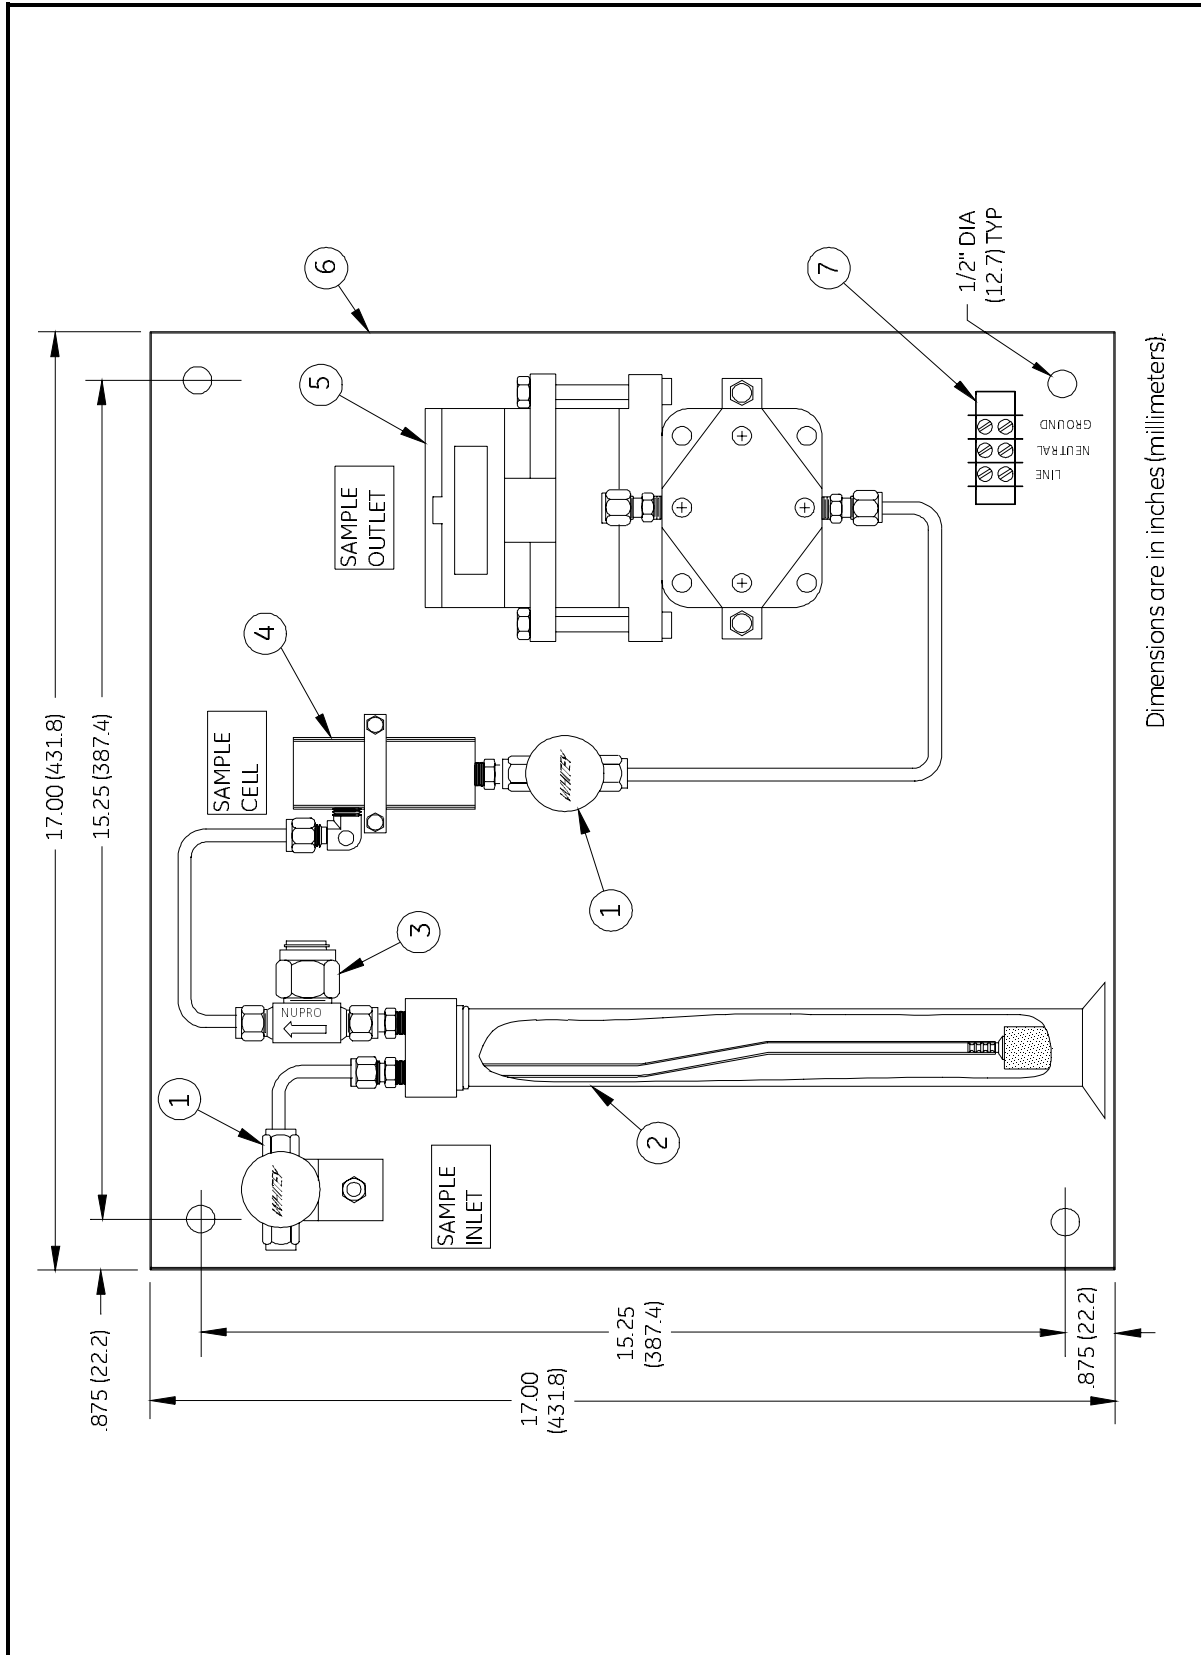

Figure 3: Mounting and Assembly Drawing (#732-962AS)
Since the gas pressure in most furnaces is low (less than 1/2 psig), the sample must be drawn through the sample system by a vacuum pump. The standard *Furnace Gas Sample System* is illustrated in Figure 3 on page 4. Your sample system may be slightly different depending on the options that were ordered. The gases are drawn into the sample system through the inlet needle valve (Sample Inlet), into the polyethylene oil bath filter (item 2). The gas will then pass through a 7 micron, sintered, stainless steel filter (item 3) before reaching the sample cell (item 4), which houses the moisture probe. The gas flows through the sample cell and the outlet needle valve to the vacuum pump (item 5) before exiting the sample system.
1. Using the mounting holes provided, secure the sample system mounting plate (item 6) in a weather-protected location as close to the sample point as possible, preferably within 5 to 10 feet.
4. Wire the pump terminal block (item 7) to a 115 VAC power source (see Figure 3 on page 4). We recommend using a power cord that is wired to an on/off switch.
5. Fill the oil bath filter (item 2) with approximately 120 ml of oil (just less than half full). Use a detergent grade 10W40 motor oil, preferably one that is produced in Texas, which you would use in your automobile engine. (It has been found that oils produced outside Texas contain additives that may adversely affect the aluminum oxide moisture sensor.) Save the remaining 7/8 quart, and change the oil every month or as required.